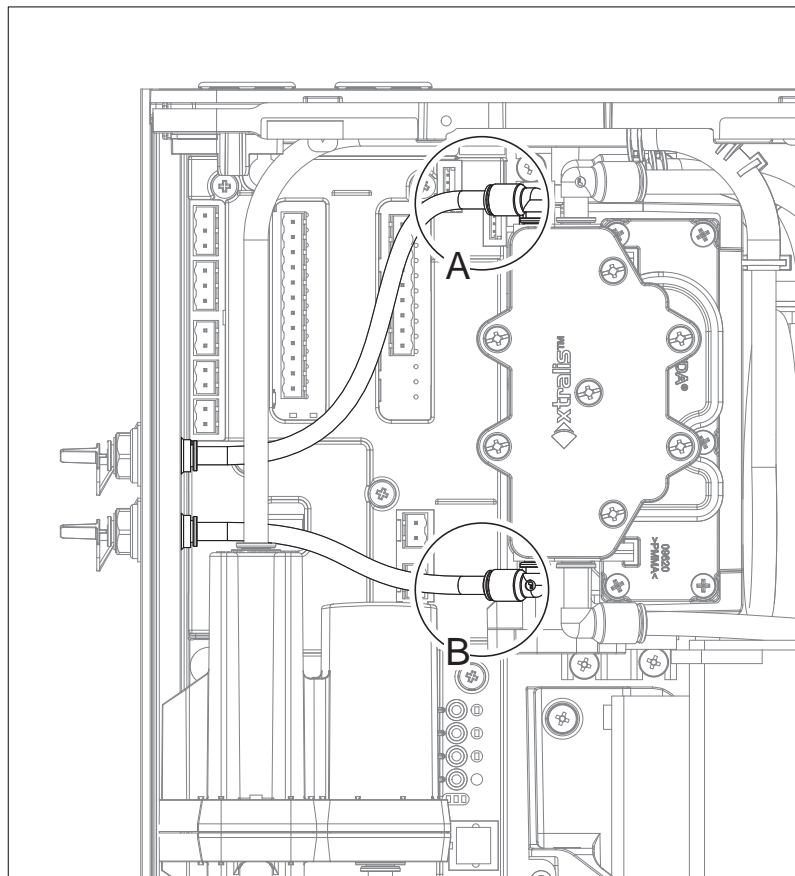
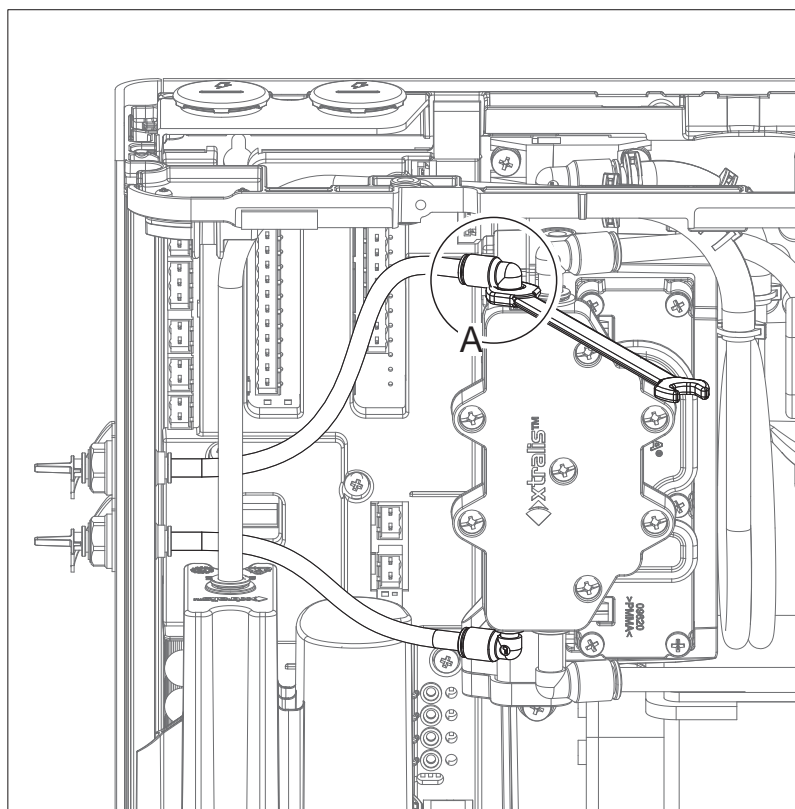

Figure 7-26: Smoke Test Port Pipes
Figure 7-27: Disconnect Smoke Test Port Pipes
5. Disconnect the smoke test port tubes (A and B) as shown in Figure 7-26 by pressing the black release button with a spanner and pull out the pipe as shown in Figure 7-27.